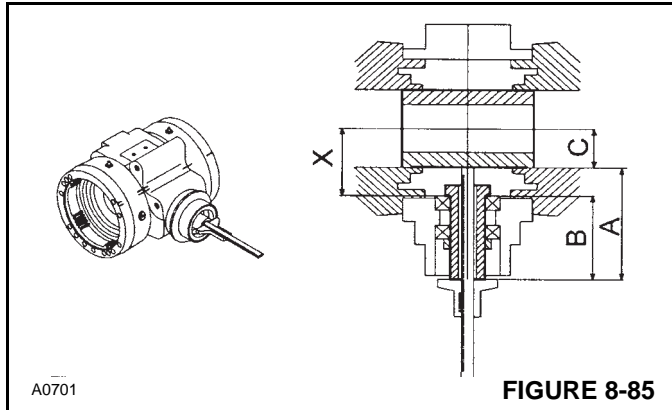

FIGURE 8-85
- Measure the distance measurements described below using a depth gauge through the hole in the false pinion (Figure 8-85).